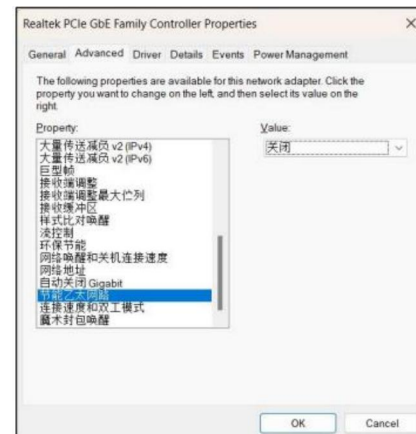

Figure 1.1.11 Ethernet Settings for energy saving
3.Disable the energy-saving Ethernet, as shown in Figure 1.1.11.